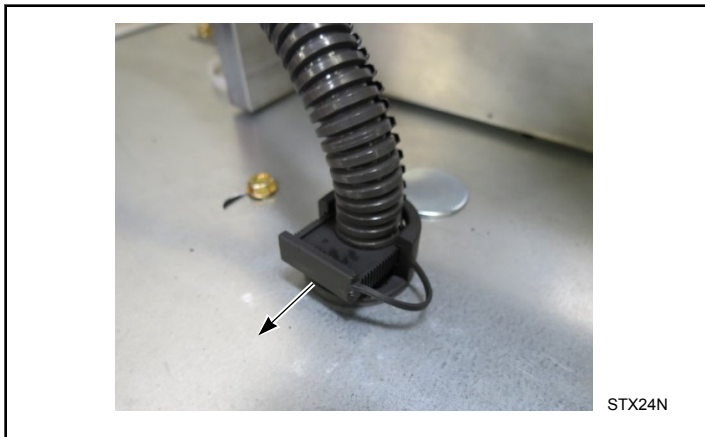

Figure 13
8. Pull harness retaining clip out of strain relief. Refer to *Figure 13* and *Figure 14*.